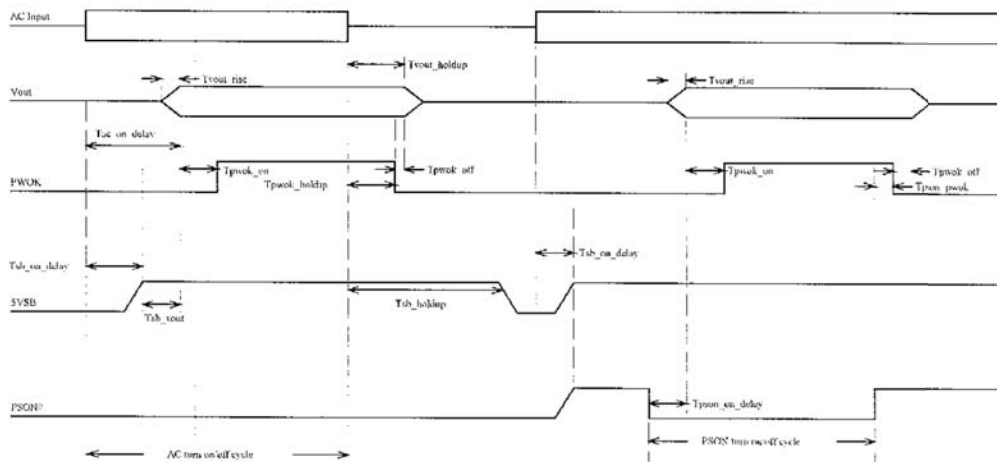

Fig.1
5.1 Power on (see Fig.1)
5.3 Power off sequence (see Fig. 1)
6.1 Power good signal (Figure 1)